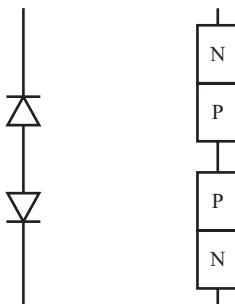
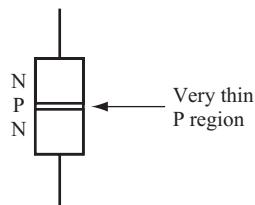

FIGURE 3.2
FIGURE 3.3
- 2** You can think of a bipolar junction transistor as functioning like two diodes, connected back-to-back, as illustrated in Figure 3.2.
However, in the construction process, one important modification is made. Instead of two separate P regions, as shown in Figure 3.2, only one thin region is used, as shown in Figure 3.3.
Which has the thicker P region, the transistor shown in Figure 3.3 or two diodes connected back-to-back? _____